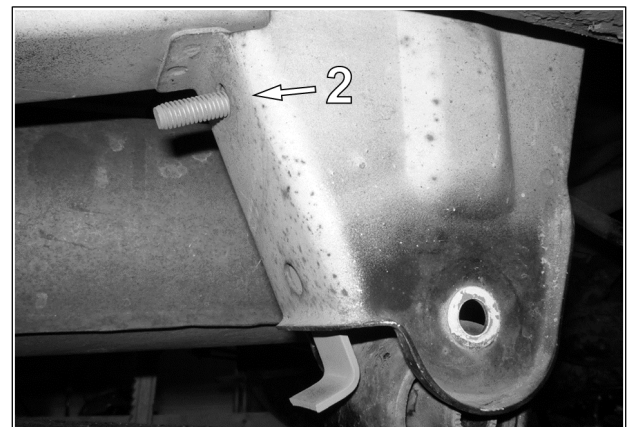

Fig. 4
5. Push the plate's welded-on bolt (2) through the support's upper hole. See Fig. 4